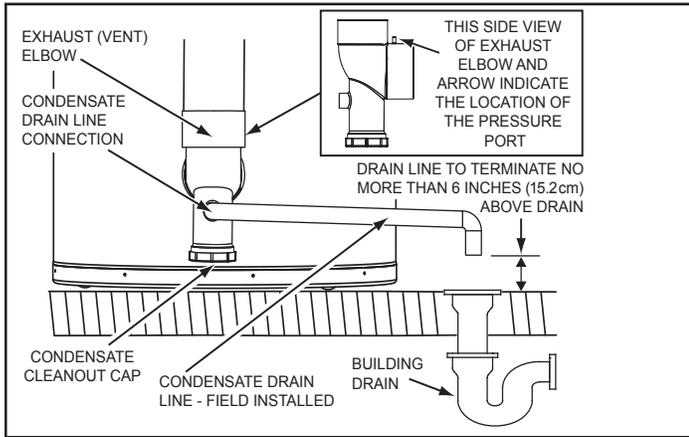

Figure 8. Exhaust/Condensate Elbow
Condensate drains from the water heater at the exhaust elbow located at the bottom. The field installed condensate drain line must not be elevated above the condensate drain connection on the built-in condensate trap. See *Figure 8* (page 16). If the condensate does not drain properly it will build up in the exhaust (vent) elbow. This will restrict the flow of flue gases and cause the Blocked Exhaust Pressure switch to open its contacts. The control system monitors all pressure switches. If the Blocked Exhaust switch contacts are open, the control system will lock out and disable heating operation. The "Blocked Exhaust fault" message will be displayed on the control system's LCD. See *Fault And Alert Conditions* (page 63).
The exhaust elbow has a built-in condensate trap. Do not install an additional trap in the condensate drain piping. See *Figure 8* (page 16).
**DO NOT** remove the factory installed exhaust/condensate elbow (see *Figure 8* (page 16)) for any reason. The water heater's vent pipe is under a slight positive pressure while unit is in operation. The water trap inside of the exhaust/condensate elbow prevents flue gases from escaping into the installed space. The exhaust elbow has a built in condensate trap. Do not install an additional trap in the condensate drain piping. See *Figure 8* (page 16) and *Condensate Drain Installation* (page 38).